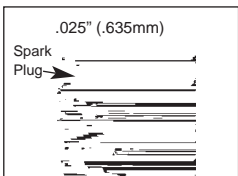

Fig. 25
2. Spark plug gap = .025 in. (.635mm) (Fig. 25).
3. Clean spark plug or install a new spark plug with proper gap.(Fig. 25)